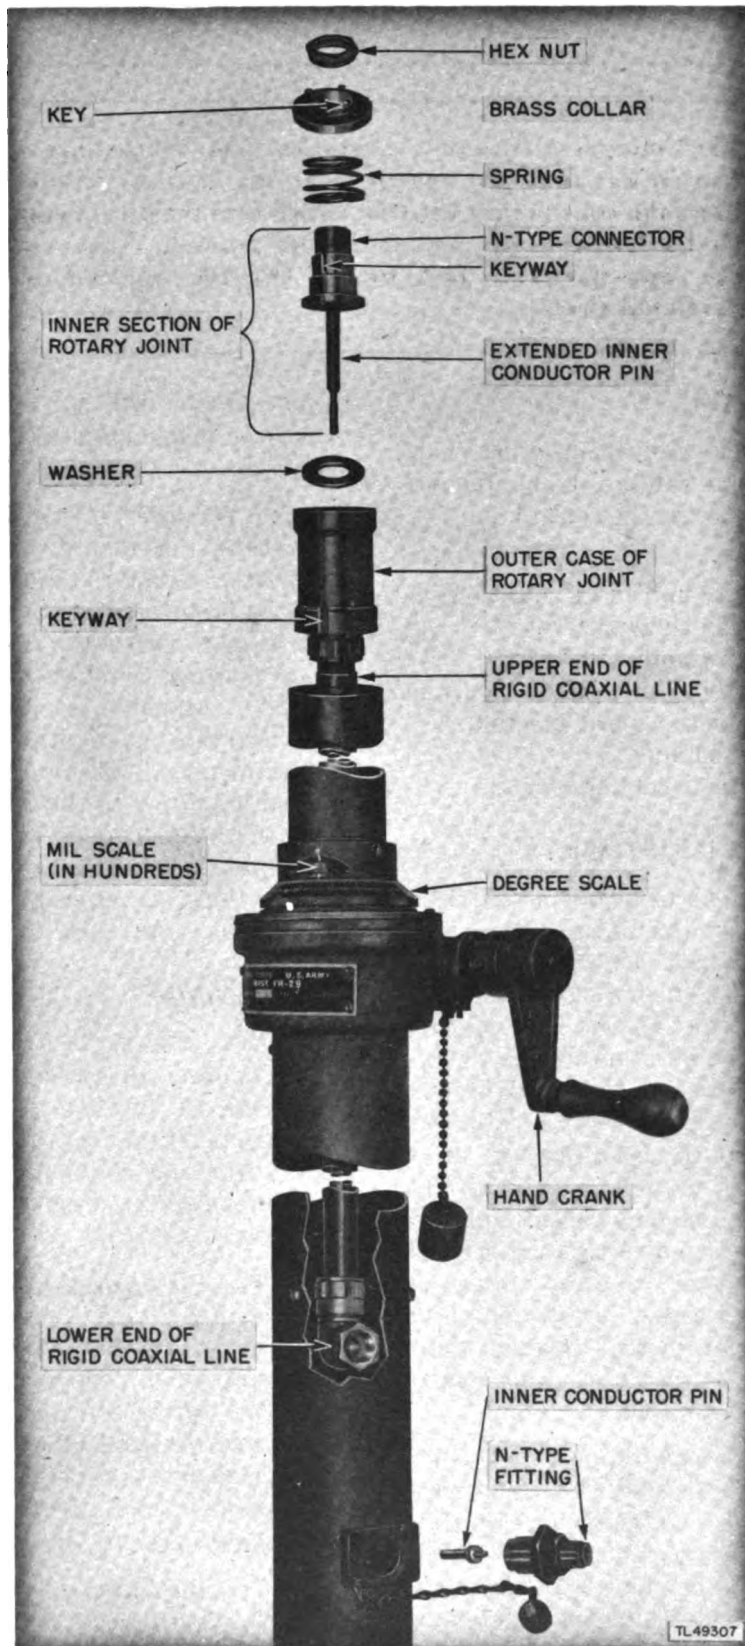

Figure 99. Tower TR-29, rotary joint, exploded view.
for open or short circuits from the coaxial connector at the base of the antenna to the end of Cord CG-282/TPX. If an open or short circuit is found, remove the cord from the mast and check it again. If no faults are found, check the section of line from the coaxial connector on the base of the mast through the rotary joint to the top of the bottom section of the mast (fig. 99).
b. In cold weather the drive system should be warmed up by disconnecting the flexible drive cable at the tower and attaching the hand crank (fig. 99). Turn the tower rapidly several times in each direction until it turns easily. Before reconnecting the flexible drive cable, turn the hand crank on the remote drive box until it turns easily. Then reconnect the drive cable to the mast.
## **93. DISASSEMBLY OF ROTARY JOINT (fig. 99).**
g. Remove the inner section of the rotary joint carefully. This inner section is composed of the N-type connector and an extended inner conductor pin which makes a friction coupling with the inner conductor of the rigid coaxial line (fig. 99).